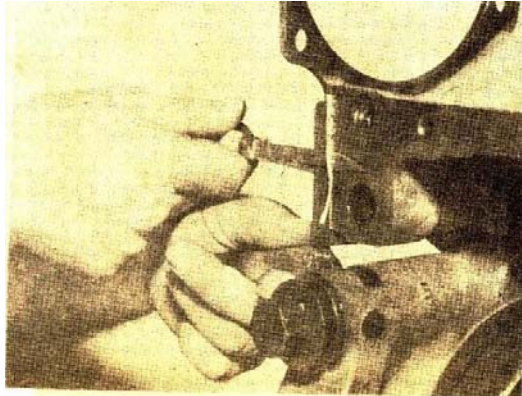

Fig. 14-39, Trim the excess gasket material
5. Trim the excess gasket material from the front cover gasket and the steel plate gasket so that only 0.010 inch (0.25mm) gasket material protrudes from the lower side of the block. Fig. 14-39.